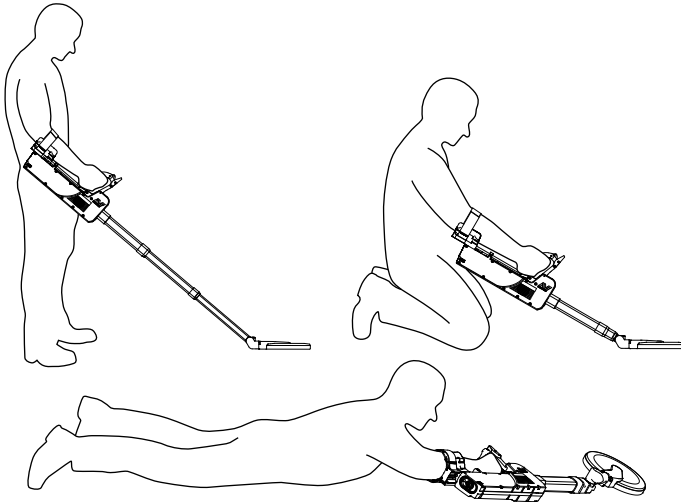

Figure 7: F3 Compact in the standing, kneeling or prone positions
- f. Extend the Lower and Middle Shafts to suit the selected demining position as shown in Figure 7.